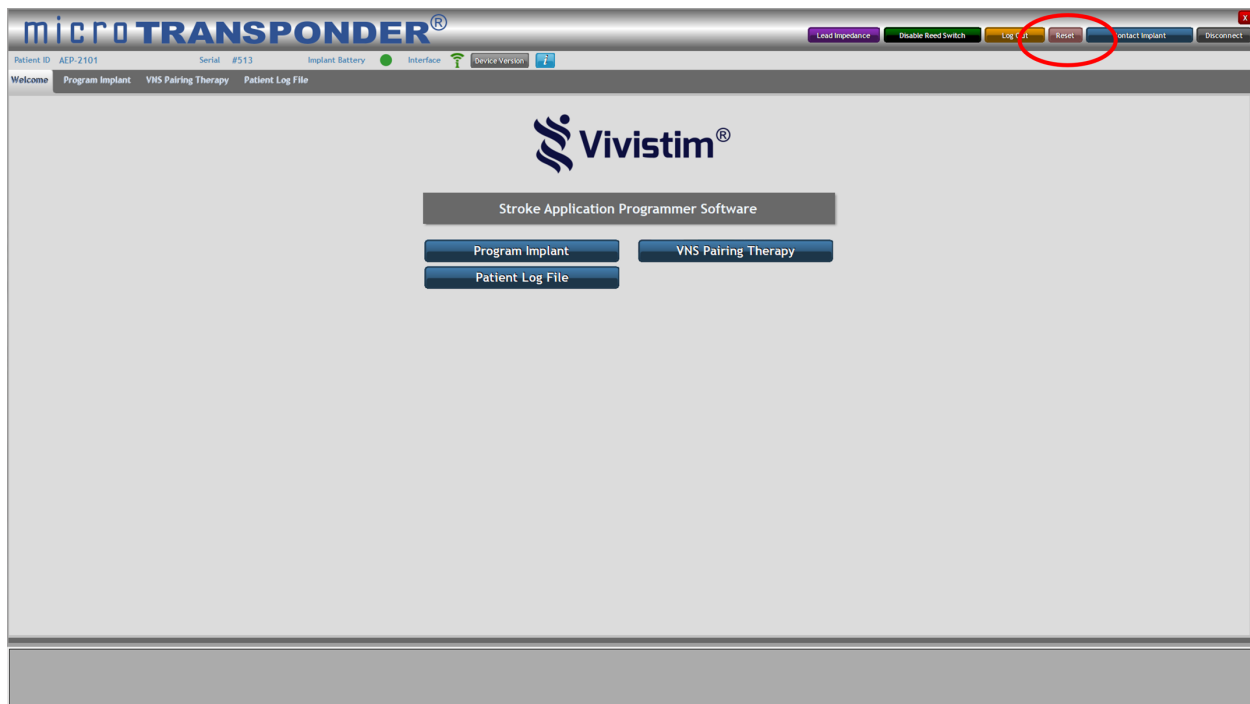

Figure 6.1: Reset Button
2. After contacting MicroTransponder, select the **Reset** button to reset the IPG (see Figure 6.1).